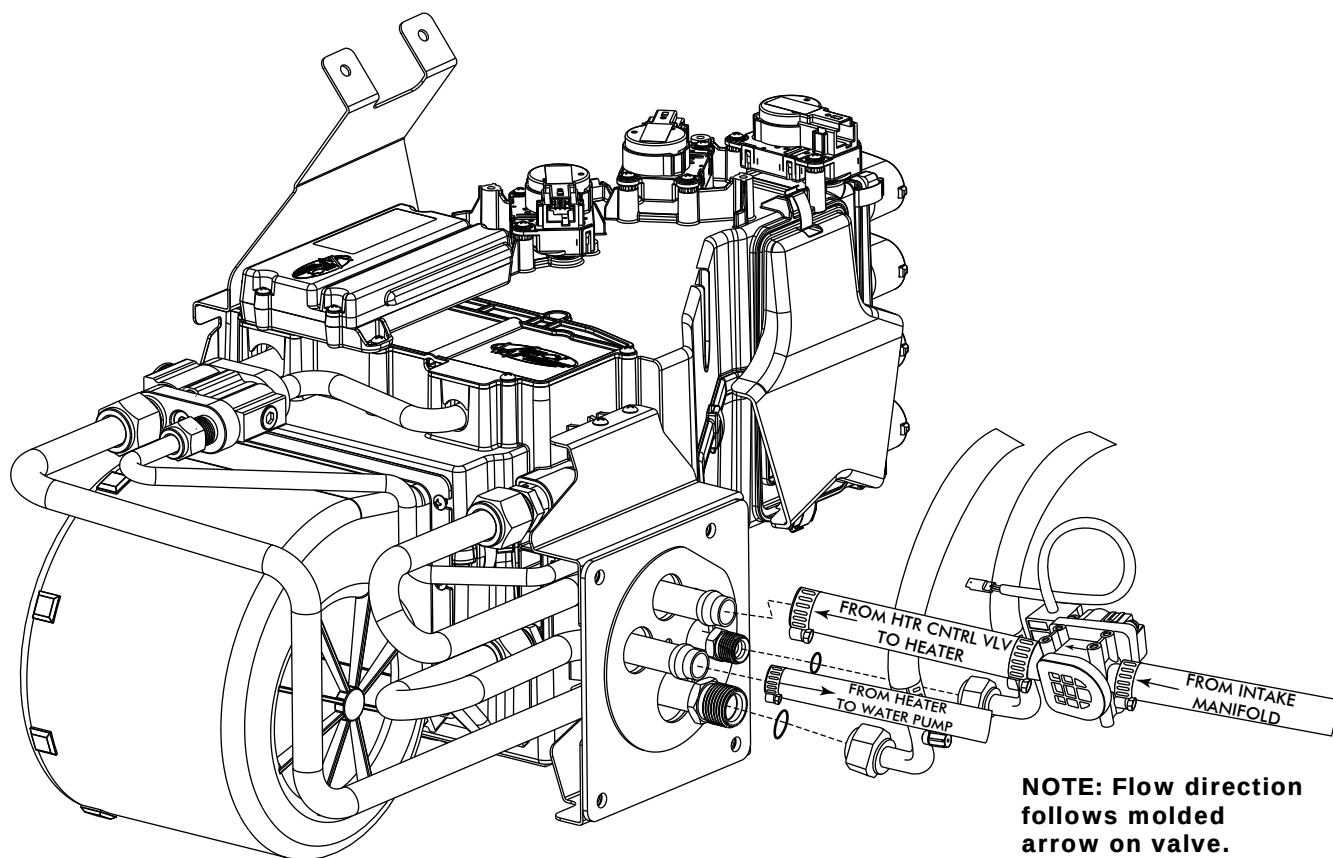

Figure 1
1. Locate the #8 compressor A/C hose. Lubricate (2) #8 O-rings (See Lubricating O-rings, Page 13), and connect the 135° fitting to the #8 discharge port on the compressor. Route the straight female fitting with service port to the #8 condenser hardline coming through the radiator core support (See Figure 1, Page 19). Tighten each fitting connection as shown in Lubricating O-rings, Page 13.
2. Locate the #10 compressor A/C hose. Lubricate (2) #10 O-rings (See Lubricating O-rings, Page 13), and connect the 90° female fitting with service port to the #10 suction port on the compressor. Route the 90° female fitting to the #10 evaporator hardline coming through the firewall (See Figure 1, Page 18, & Figure 1, Page 19). Tighten each fitting connection as shown in Lubricating O-rings, Page 13.
3. Locate the #6 evaporator/drier hose. Lubricate (2) #6 O-rings (See Lubricating O-rings, Page 13), and connect the 45° female fitting to the drier. Route the 90° female fitting to the #6 evaporator hardline coming through the firewall (See Page 17). Tighten each fitting connection as shown in Lubricating O-rings, Page 13.
4. Use (6) tie wraps to secure the #6 A/C hose to the brace as shown in Photo 4, Page 18.
1. Route a length of heater hose from the lower heater hardline to the water pump fitting, then secure it using (2) hose clamps.
2. Cut a length of heater hose approximately 4" to 5" from the firewall cover, then install it onto the upper heater hardline. Install the heater control valve and secure it with (2) hose clamps. **NOTE: Ensure proper flow direction through the heater control valve. The flow direction follows the molded arrow on the valve (See Figure 1, below).**
3. Install another length of heater hose from the heater control valve to the intake, then secure it with (2) hose clamps.